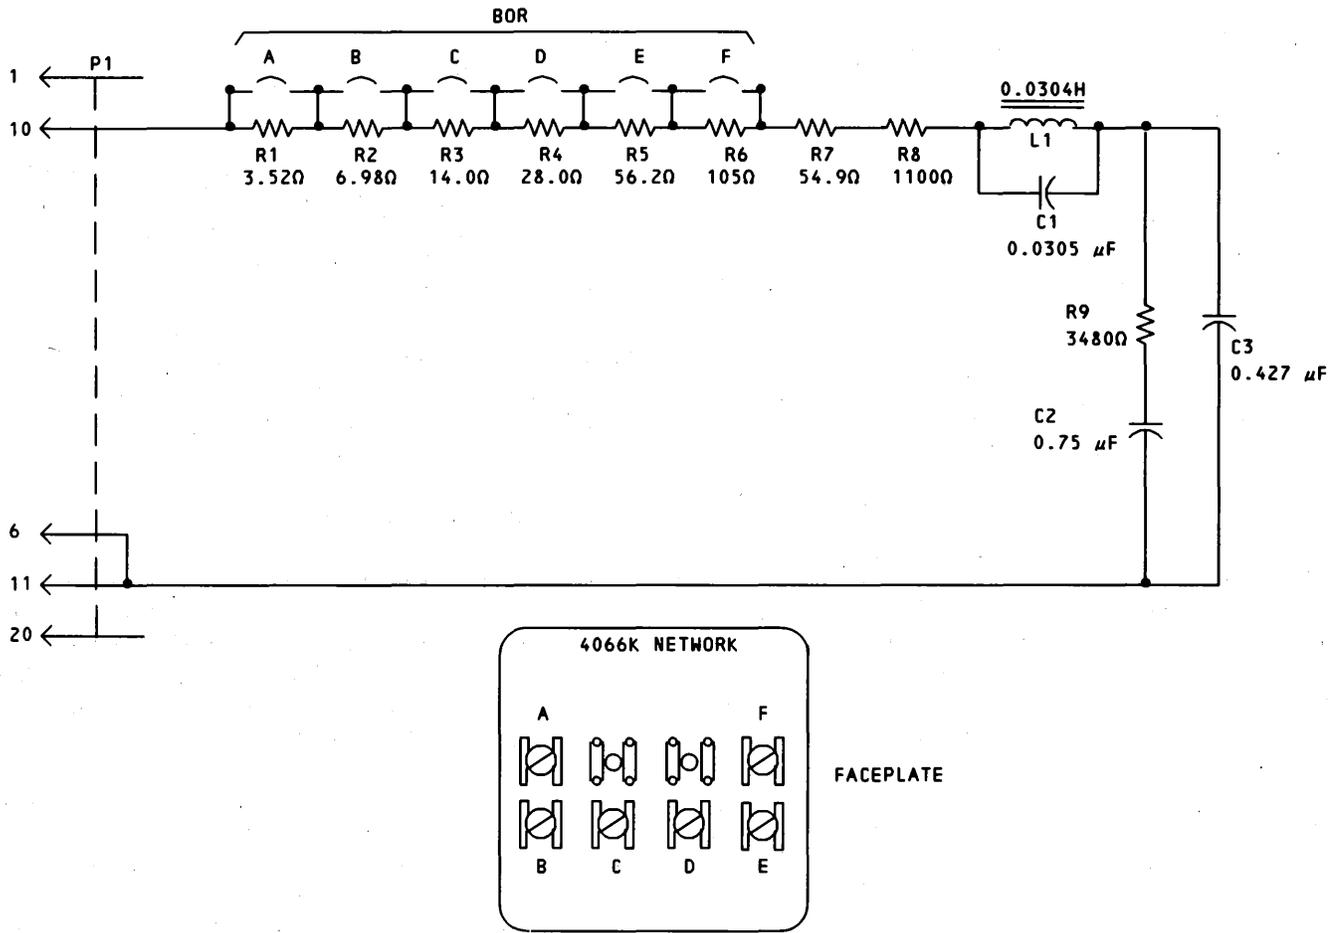

Fig. 1—Schematic and Faceplate Diagram of the 4066K Network
**3.01** A schematic and faceplate diagram of the 4066K network is shown in Fig. 1. The circuit is composed of all passive electrical components which produce an impedance approximating that of 25H88 MAT cable when the cable is terminated in its characteristic impedance.